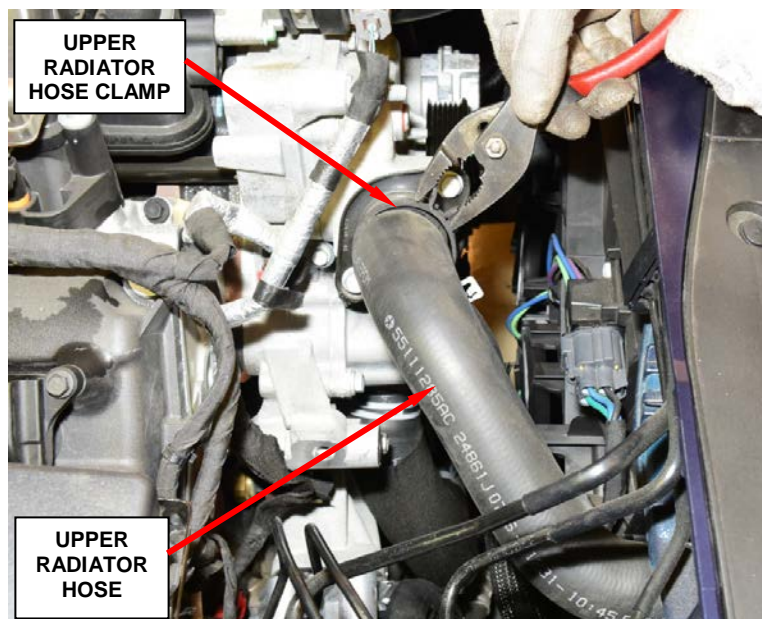

Figure 16 – Radiator Hose Clamp
14. Remove the upper radiator hose clamp at the thermostat housing (Figure 16).